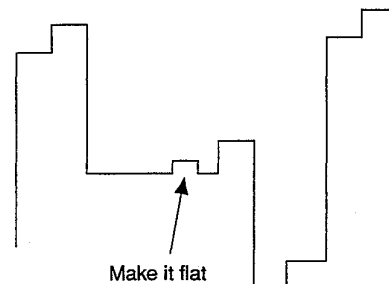

Fig. 5-14
4. Adjust **PHASE NTSC 358 NOR** so that the burst section of the output waveform will be straight. (Fig.5-14)